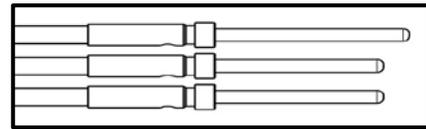

Figure 2 – Terminated Pin Contacts
- Terminate appropriate contacts onto individual wires using crimping tool M22520/2-01, Use positioner K1461 for contacts 2226913-1 and 2226923-1. Use positioner K2062 for contact 2226913-2. See Figures 2 and 3.